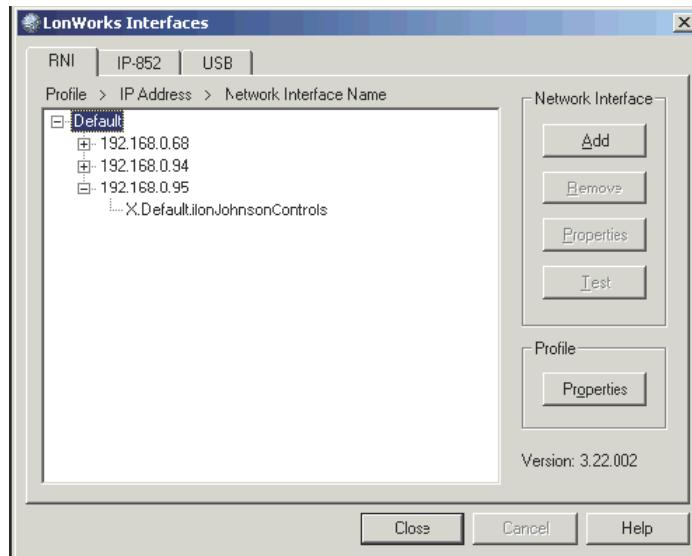

Figure 24: LONWORKS Interfaces Dialog Box
2. Double-click the LONWORKS Interfaces icon. The LONWORKS Interfaces dialog box appears (Figure 24).